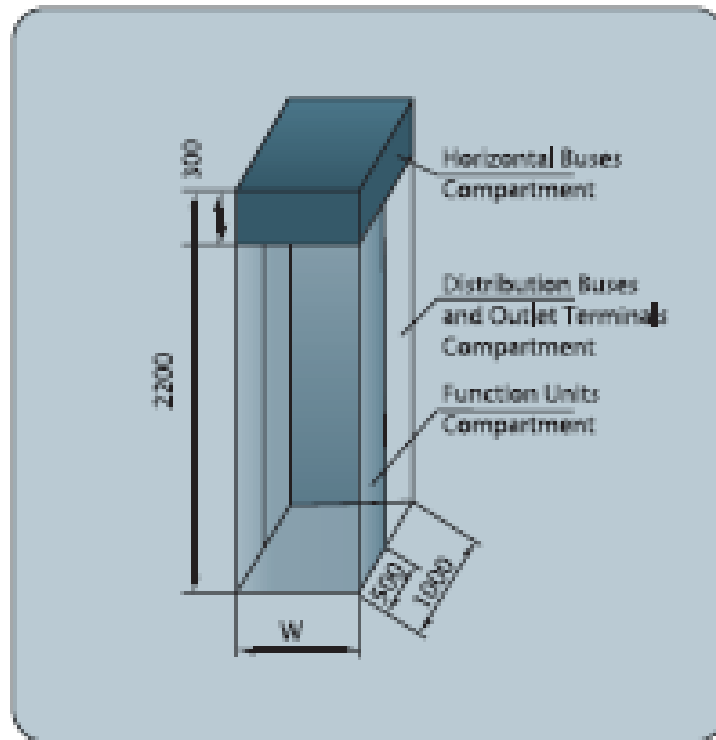
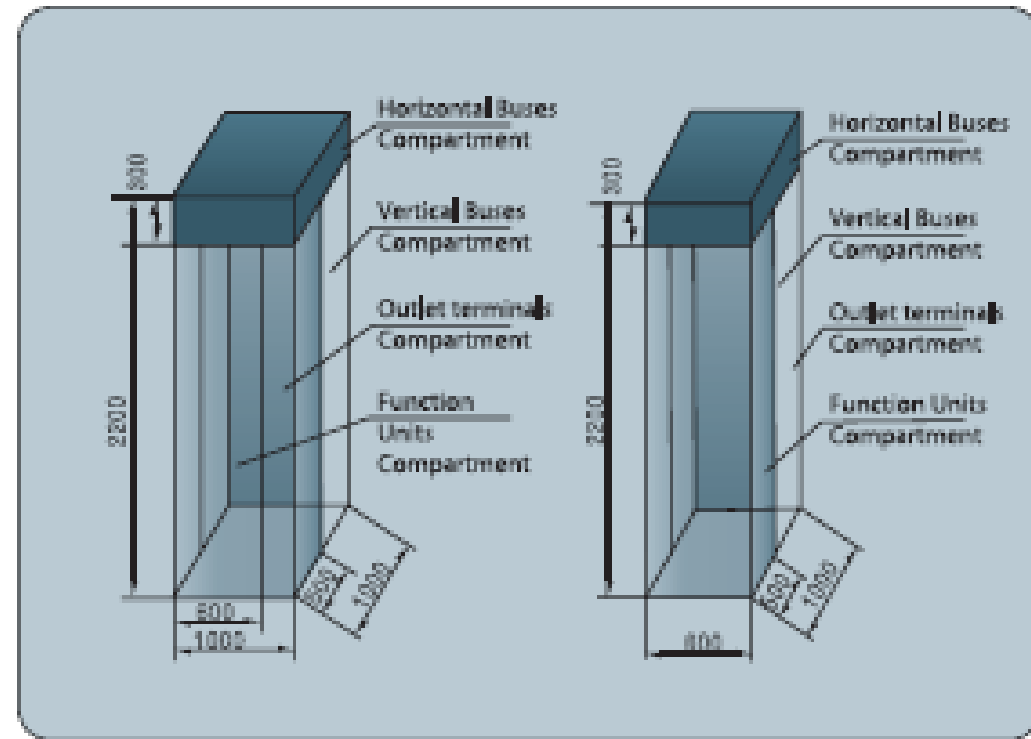

Fig.1. PC Cabinet
Fig.2. MCC Cabinet
- Internal spaces are divided into different compartments for horizontal buses, vertical buses, function units and outlet terminals. The compartments are in the form of 3 or 4 and reach the ingress protection level of IP2X. The position of each compartment is demonstrated in figure 1 and figure 2.
- (1) PC cubicle – incoming line, bus-tie and power center (fig.1)
- (2) MCC cubicle – motor control center (fig.2)
- (3) Reactive power compensation switchgear
- Dimensions of cabinets are demonstrated in figure 1, figure 2 and table 1.